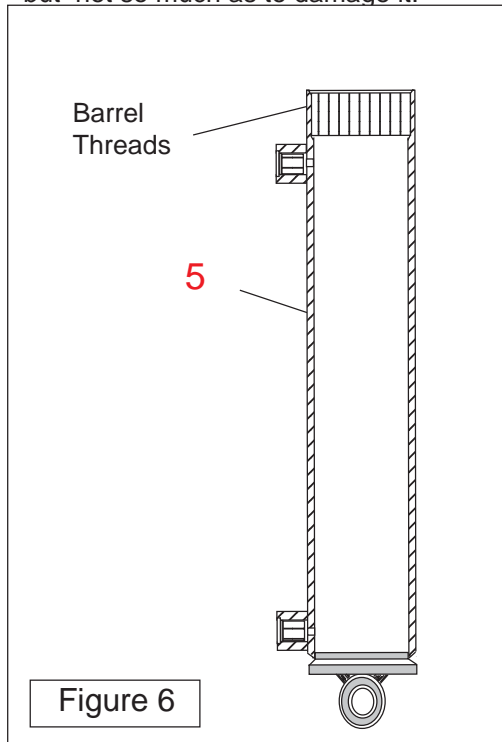

Figure 6
2. The barrel (figure 6 item 5) will need to be prepared for re-assembly. If barrel has been replaced or the old barrel is being used it will need cleaning and a light coat of appropriate hydraulic oil applied. Once done clamp the barrel down with only enough force to hold it but not so much as to damage it.